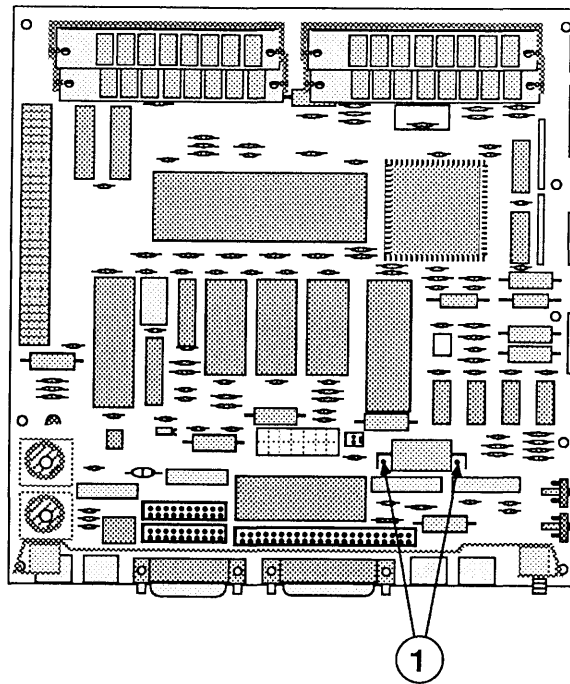

FIGURE 1
4. Using wire clippers, cut the leads (Figure 1, #1) at both ends of the battery to free it from the main logic board. Cut the leads as close to the logic board as you can without touching the board with the clippers.